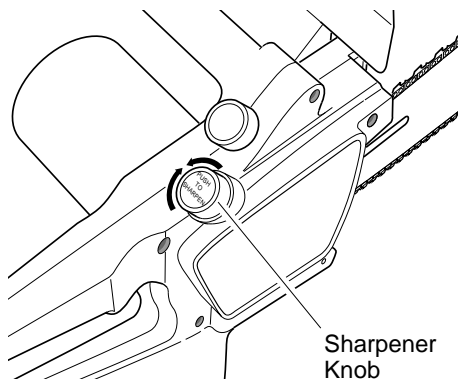

Figure 24 - Turning Sharpener Knob
3. Turn sharpener knob counterclockwise until clicking stops (see Figure 24).